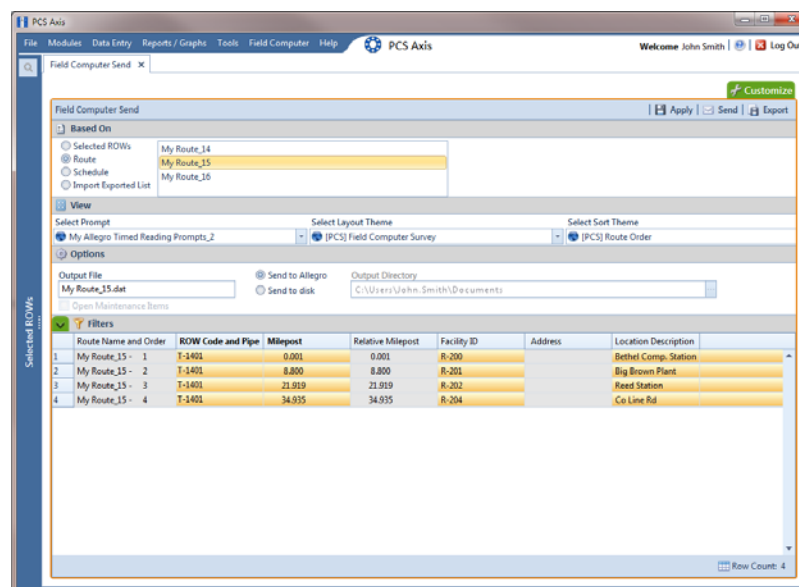

Figure 8-22. Field Computer Send
- 16 Click the **Route** option and select a route in the selection box. Then click  **Apply** to update the grid (Figure 8-22).
- 17 Click the down arrow in **Select Prompt** and select a theme with timed reading fields (Figure 8-22, page 342).